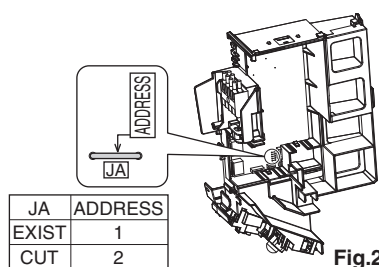

Fig.2
- 3) Cut the address jumper (JA) on the printed circuit board. (See Fig.2)